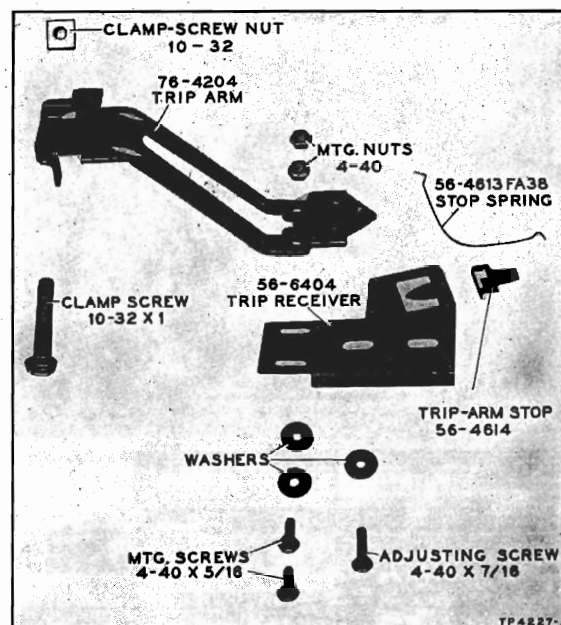

Figure 28. Trip-Arm and Trip-Receiver Assemblies
- Remove the three screws, washers, and nuts from trip arm (figure 28).